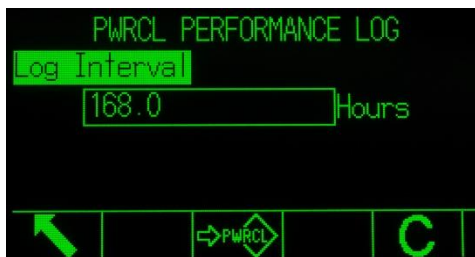

Figure B-10: PWRCL Performance Log Setup Screen
1. The POWERCELL Performance Log does not automatically log records by default. To set up the automatic logging, go to the **Maintenance > Configure/View > PWRCL Performance Log** setup screen (Figure B-10) and enter an appropriate log interval, between 0.1 and 999.9 hours. A typical value for day-to-day operation is 12, but for diagnostic purposes this interval can be much smaller. A manual record can also be triggered using the **PWRCL PERFORMANCE LOG** softkey .
1. Access the **Maintenance > Configure/View > PWRCL Performance Log** setup screen (Figure B-10).